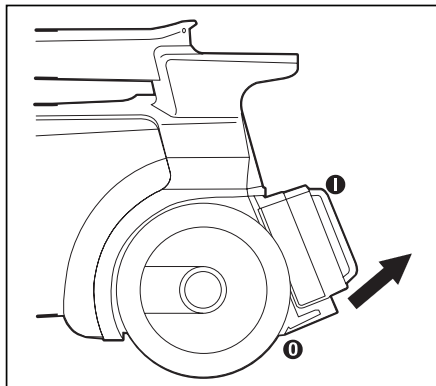

Fig. 13
Step 1: Grasp the bottom clips ❶ on the filter ❶ (Fig. 13).
Step 2: Pull out and down to release (Fig. 13).